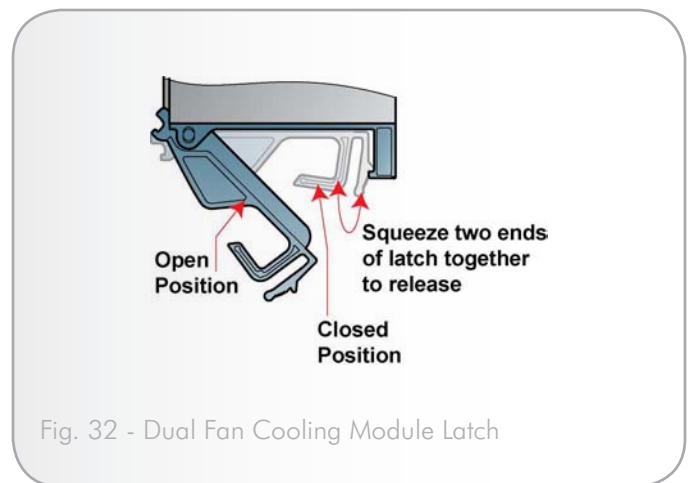
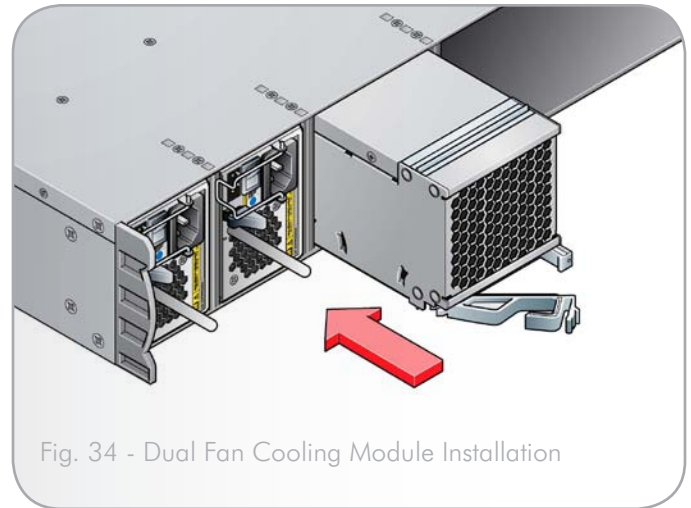

Fig. 32 - Dual Fan Cooling Module Latch
Fig. 34 - Dual Fan Cooling Module Installation
1. Grasp latch (Fig. 32) between thumb and forefinger. Squeeze thumb and forefinger together to release the latch.
2. With the latch in the open position (see Fig. 32), slide the module into the enclosure until the latch engages automatically (see Fig. 34).